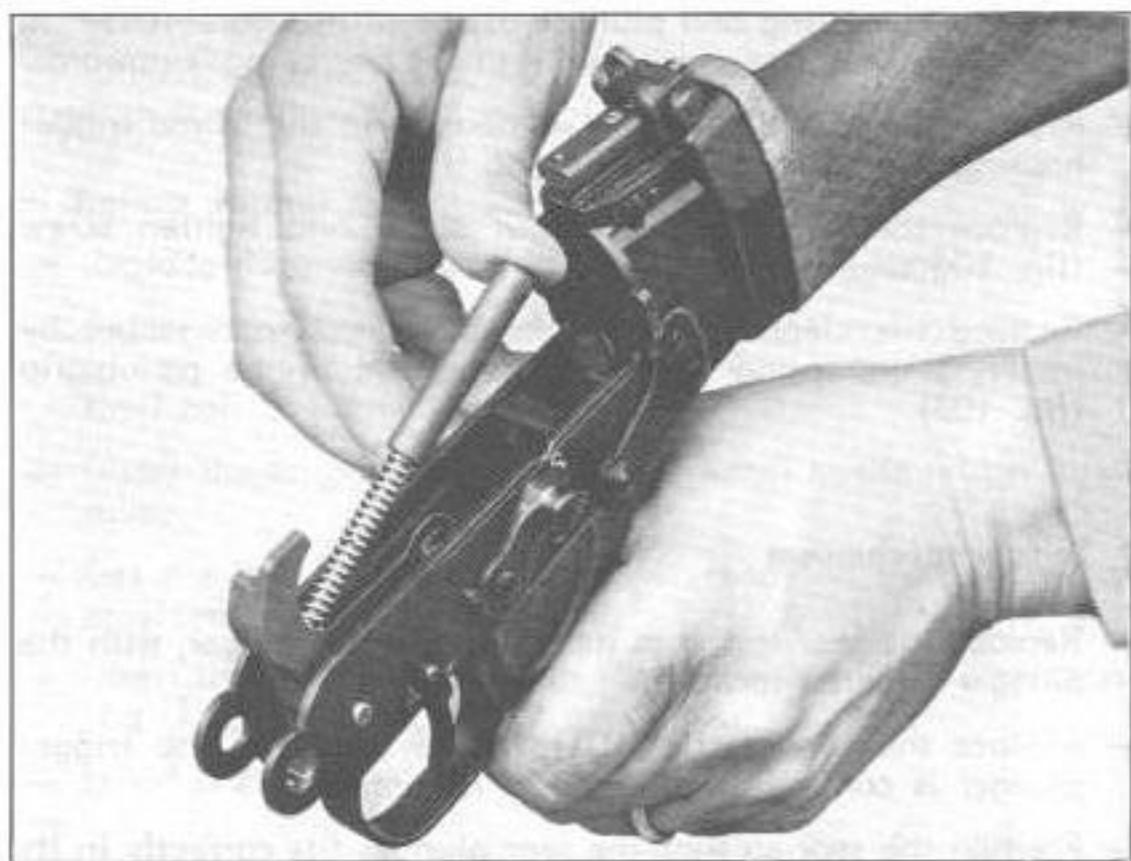

Fig. 137
- Use thumb to compress the hammer spring, pushing it forwards and backwards to locate its housing correctly (fig. 137).